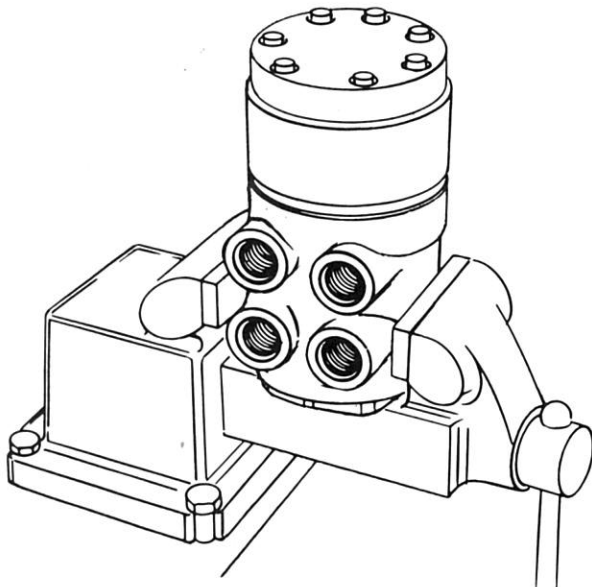

Figure 1
- 1 Clamp unit in vise, meter end up. Clamp lightly on edges of mounting area, see Fig. 1. Use protective material on vise jaws. Do not over tighten jaws.